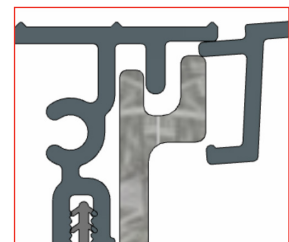

Fig 36
- When installing the exterior cover, ensure the front of the cover is tucked under the Sill Nosing as shown in figure 36.